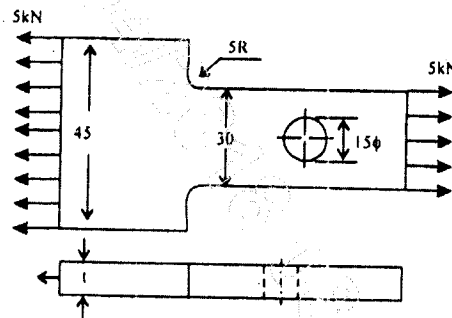

Fig.Q2(b)
- b. A flat plate subjected to tensile force of 5 kN is shown in Fig.Q2(b). The plate material is grey cast iron FG 200 with an ultimate tensile strength of 200 MPa. The factor of safety is 2.5. Determine the thickness of the plate. (08 Marks)